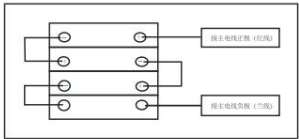

Figure 5-1
5. Battery installation: The battery connection is in series. When installing, check whether the connections are made firmly. There should be no looseness. If the battery holder is a sheet iron box welded to the frame, place the battery according to Figure 5-1 on the right.